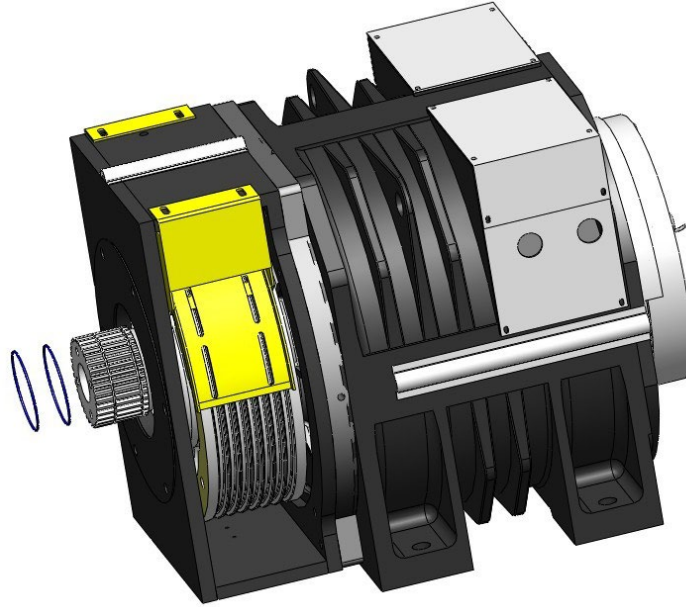

Figure 38 Install O-rings
6. Replace the O-ring (Ø109x3.1) if necessary. See Figure 38.